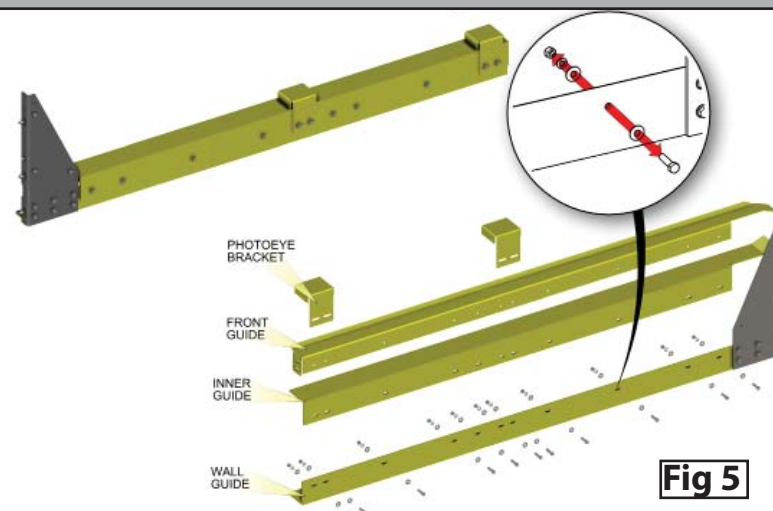

Fig 5
- Remove pre-installed hardware holding the guide assemblies together and disassemble the guide assemblies. See FIG 5.